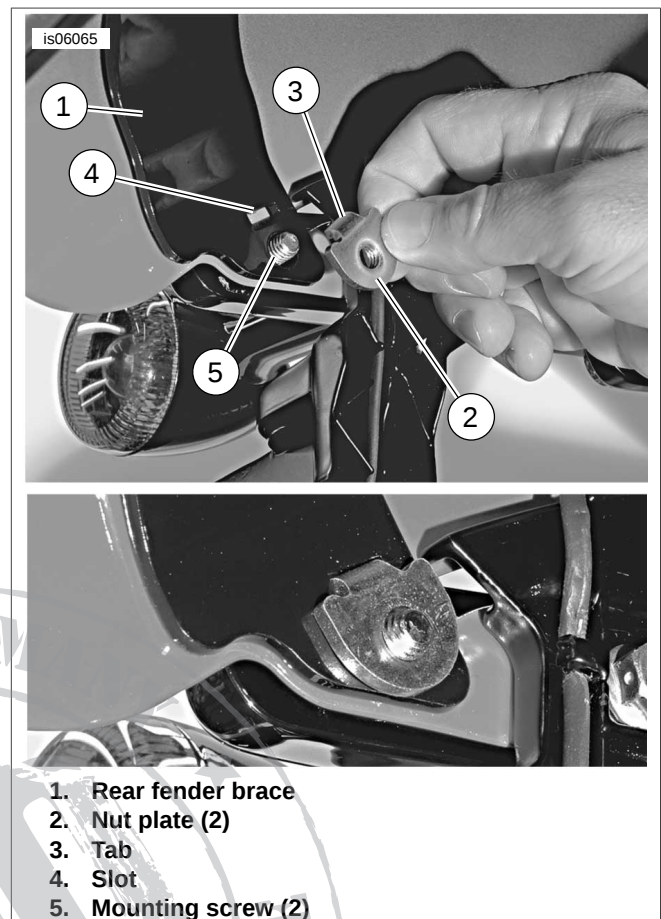

Figure 2. Rear Fender Nut Plate
12. Position the rear fender brace (2) to the underside of the fender and align the center hole with the hole in the fender. Loosely fasten with the Phillips-head screw (3).
13. See Figure 2. Make certain that the tab (3) on each nut plate (2) fits into the slot (4) in the fender brace (1) when securing the nut plates with the rearmost fender mounting screws and washers (5). Do not fully tighten.